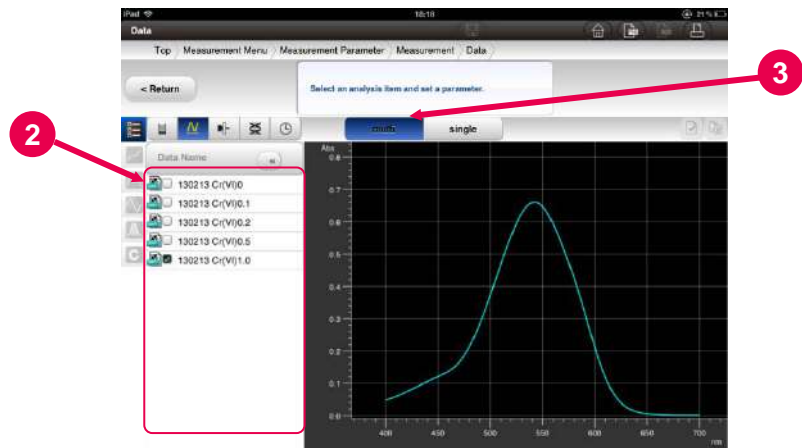
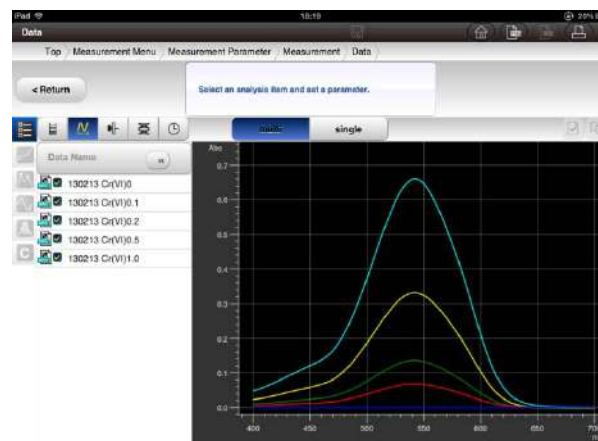

Fig. 5-55 Spectrum Measurement Data Check Window
Fig. 5-56 Multi-Spectra Display Window
- (1) Select spectral data files to be displayed in a stack using the steps in 5.1.1 “Reading Saved Data” and move to the Data Check window (Fig. 5-55).
- (2) Click the checkbox for the spectral data files to be displayed in a stack. You can select up to 10 spectral data files.
- (3) When you press the Multi-Display button **multi**, the spectra are displayed in a stack (Fig. 5-56).